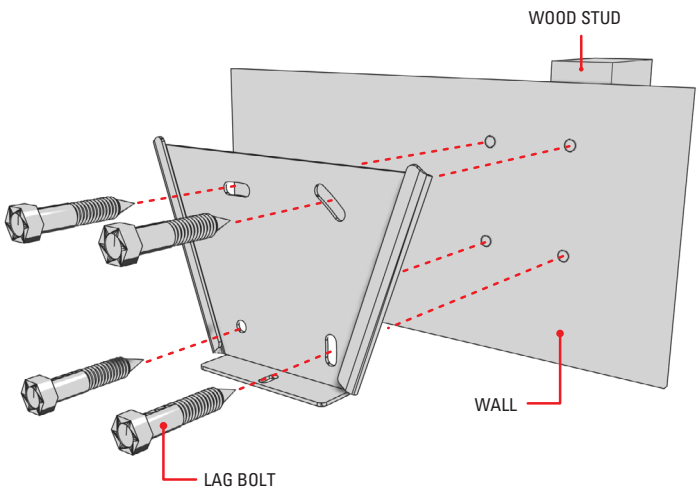

Figure 2. Attaching the Wall Bracket to Wood Stud Wall
- (1) Use a stud finder to locate and mark the edges of the wood stud that the mount will be attached to.
- (2) Center two of the wall bracket mounting holes vertically between the edges of the wood stud. Use the wall bracket as a template to mark the two mounting holes.
- (3) Attach the wall bracket to the wall and through the wood stud using two 1/4-inch diameter x 2-inch lag bolts as shown in Figure 2.
- (4) Finish mounting the wall bracket to the wall. Insert hardware suitable for the mounting surface through the remaining two wall bracket mounting holes. Refer to the following chart for recommended installation surfaces and minimal hardware requirements.